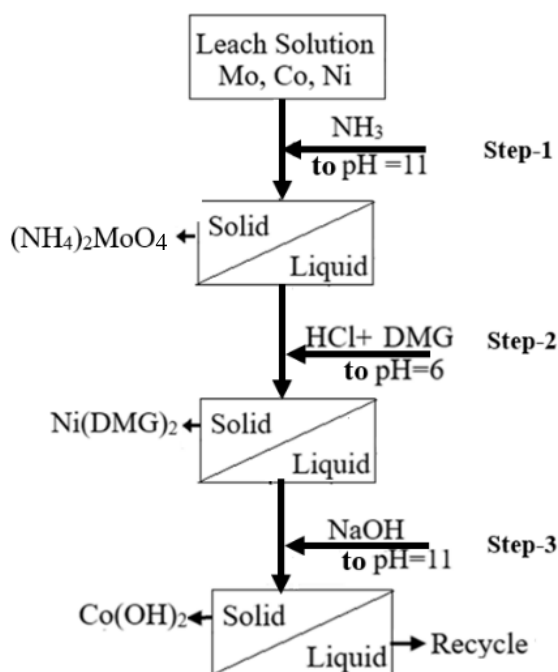

Fig. 2 Flow diagram of metal separation from leach solution
- After concentration and separation of solids, remaining filtrate can be added back to one of the steps (1 or 2 or 3) shown in Fig 2., with a specific advantage. In the table below, **mention** this step number in Row I, and the advantage(s) in appropriate column(s) in that row. In Row II, mention disadvantage(s) if it is added in any one of the other steps.